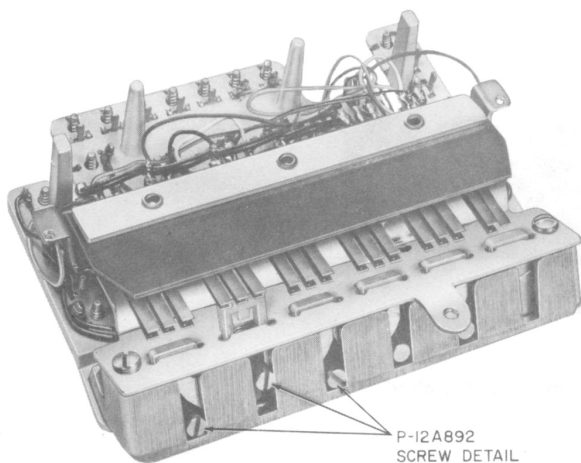

Fig. 8—636A Key, Bottom
- 3.02 To convert pickup buttons for signaling use; remove P-12A892 screw detail (Fig. 8 and 10) and make necessary wiring changes.